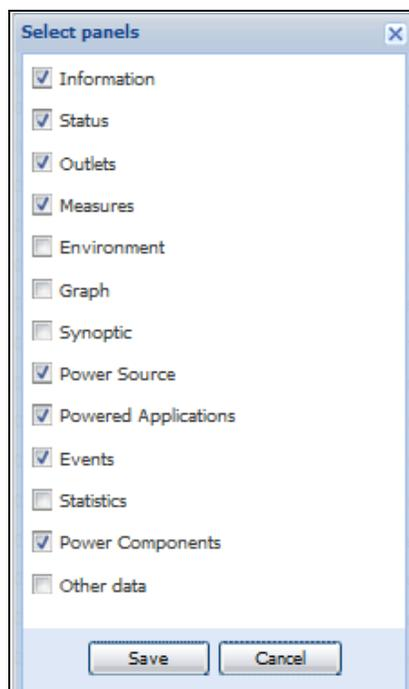

Figure 45. Panel Selection Dialog Box
4. Click the selection button  to select which panels you want to add in the selection view (see Figure 45).